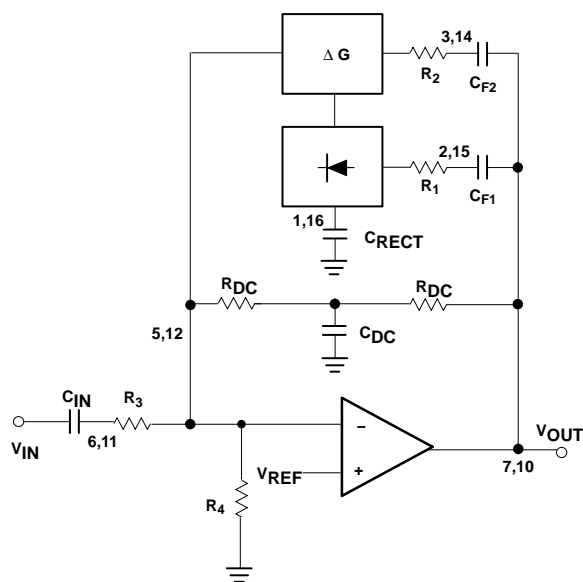

Figure 7. Basic Compressor (NE570/SA571 pinout)
1. DC bias the output half way between the supply and ground to get maximum headroom. The circuit in Figure 7 is designed around a system supply of 6.0 V, thus the output DC level should be 3.0 V.